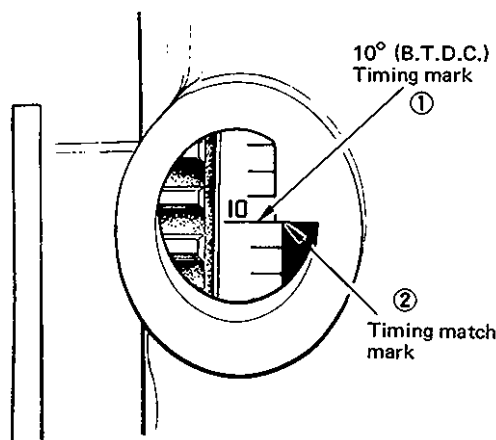

Fig. 8-17
- (1) Turn over crankshaft in normal direction (clockwise as viewed from front side) to bring timing mark "10°" ① (on flywheel) to the mark ② provided on transmission case, making the two marks line up. See Fig. 8-17,